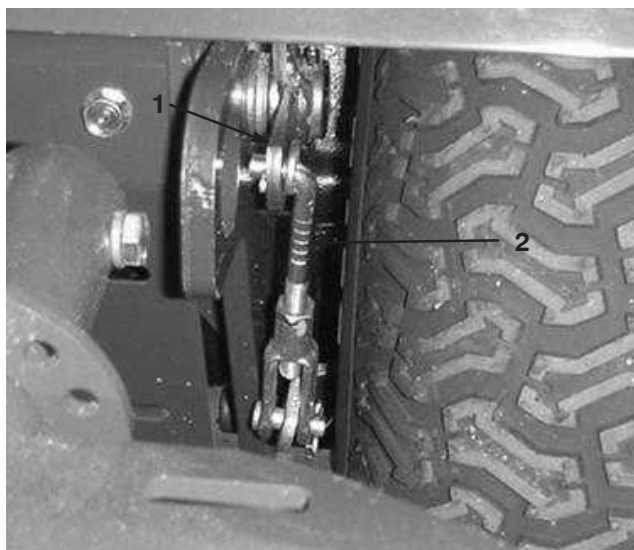

Figure 61
3. Loosen the jam nut on the clevis. Remove the cotter pin securing the top of the clevis to the upper brake lever (Fig. 61). Rotate the clevis, one turn at a time, to decrease the distance between the levers.